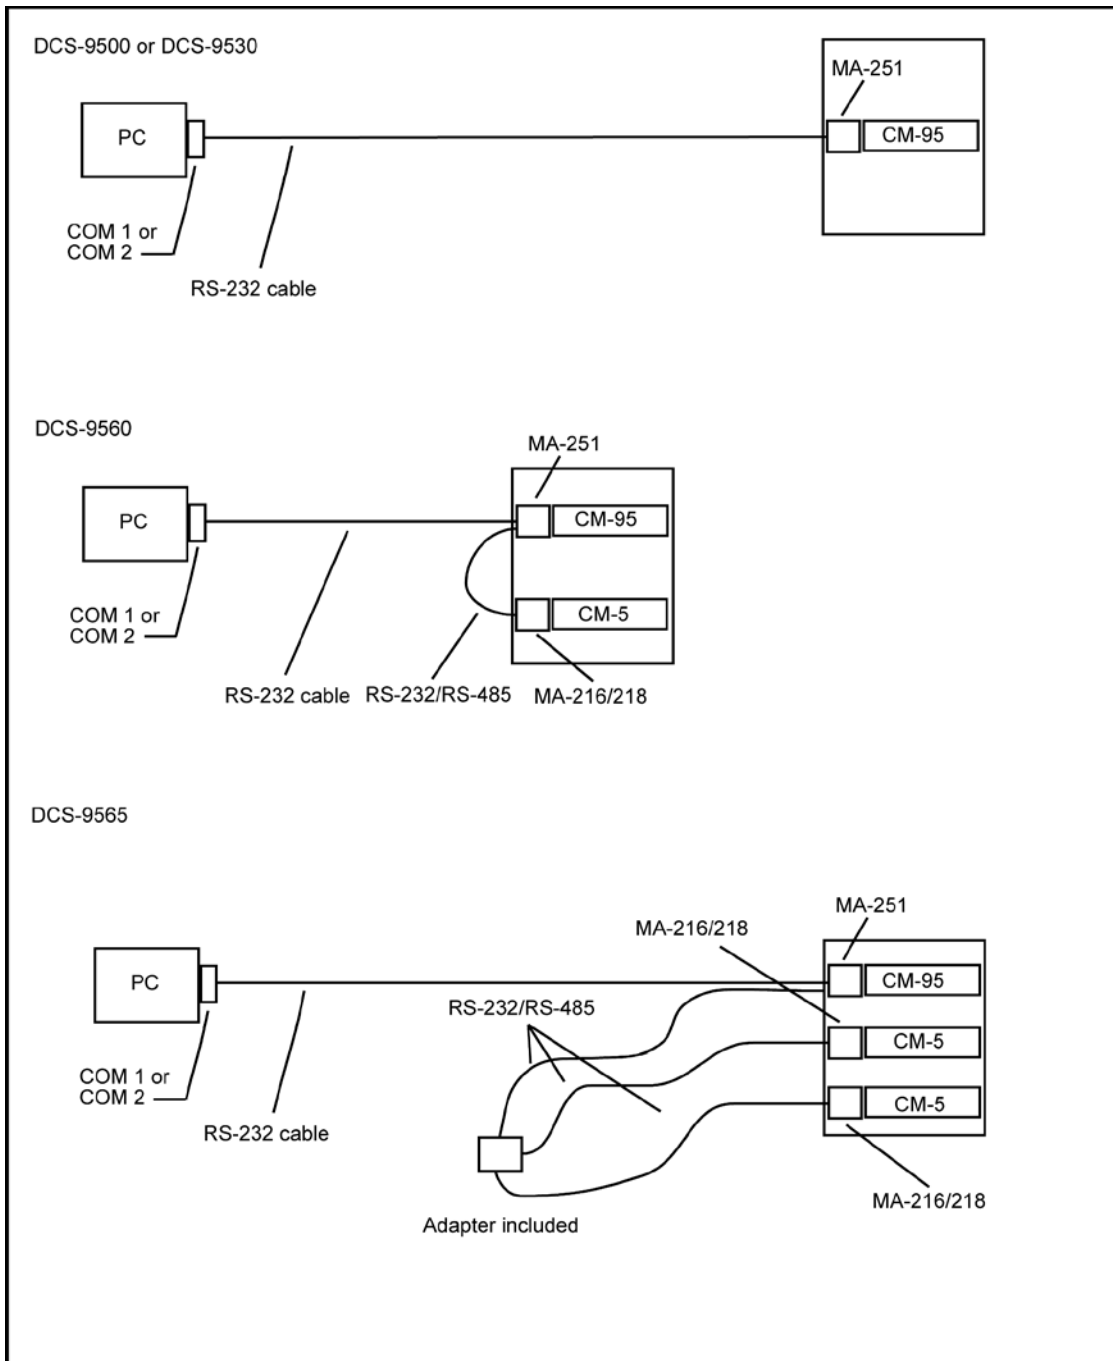

Figure 5-1. PC Connected Directly to Node Using RS-232 Cable
- A direct connection can be made using an RS-232 cable (Figure 5-1).